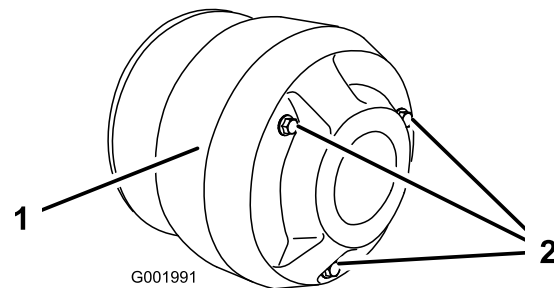

Figure 55
4. Remove the 3 bolts securing the cover to the clutch and remove the cover (Figure 55).